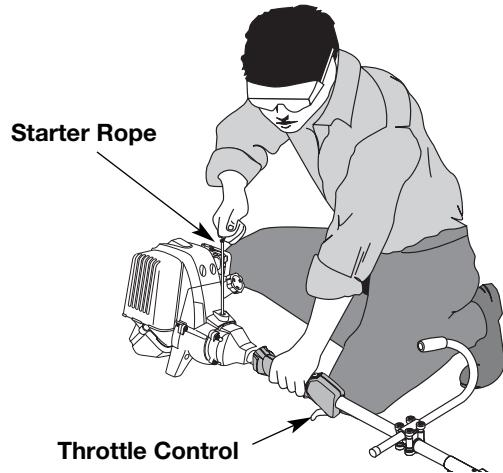

Fig. 22
WARNING: Avoid accidental starting. Make sure you are in the starting position when pulling the starter rope (Fig. 22). To avoid serious injury, the operator and unit must be in a stable position while starting. Make sure that any Add-On item is installed correctly and secure before starting the unit.
4. With the unit in the starting position, **do not squeeze the throttle control** (Fig. 22). Pull the starter rope out a short distance, until you feel some resistance. This is usually around 2-4 inches. Then pull the rope smoothly and briskly. Repeat this 5 times. The engine should start